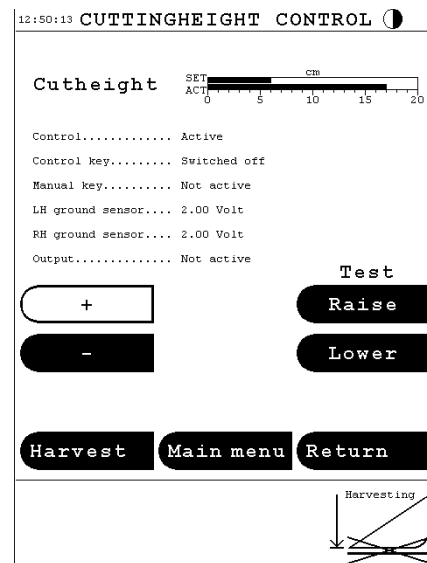

Fig. 139
Call up "Main menu | Diagnostics | Control | Cutting height control" (Fig. 139) and check that the right- and left-hand sensors show approx. 2 V.
Having checked that all mechanical connections are in order, loosen the potentiometer (2) and turn it to the right/left until the indication on the screen is approx. 2 V. (Fig. 139).